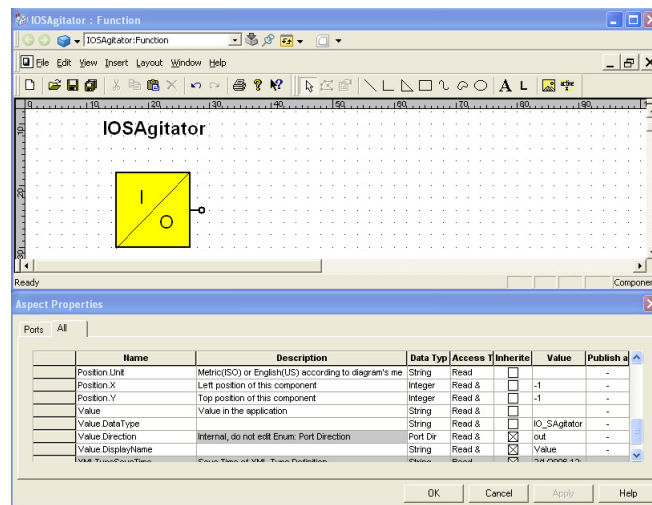

Figure 325. Graphical Symbol for IOSAgitator
- a. Right click on the copied Function Aspect and click **Component**, see Figure 325.
- g. Right click on the background of the drawing and click **Aspect Properties ...**, see Figure 325.